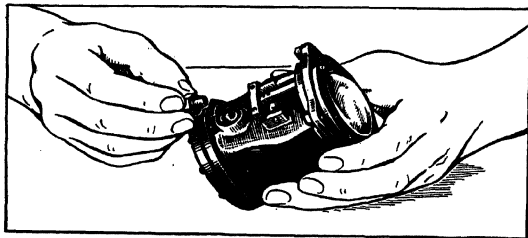

FIG. 47.—Taking filler screw out of compass.
**Compass, Type 132B.** *To Take Apart.*—Take out the filler screw, Fig. 47. If the compass is turned over, the liquid will come out. To let the liquid out more quickly, put a small tube in the filler hole to let air into the case on top of the liquid.